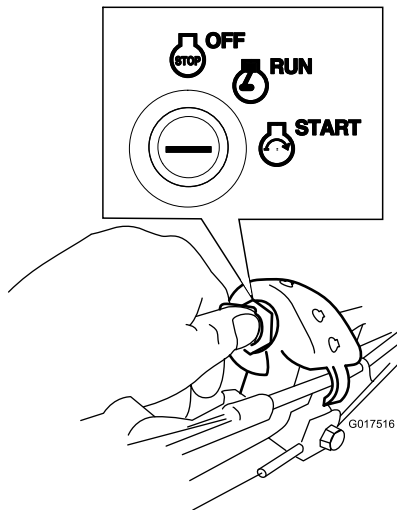

Figure 16
Turn and hold the ignition key to the Start position (Figure 16); when the engine starts, release the ignition key.
1. Turn the ignition key to the Run position (Figure 16).